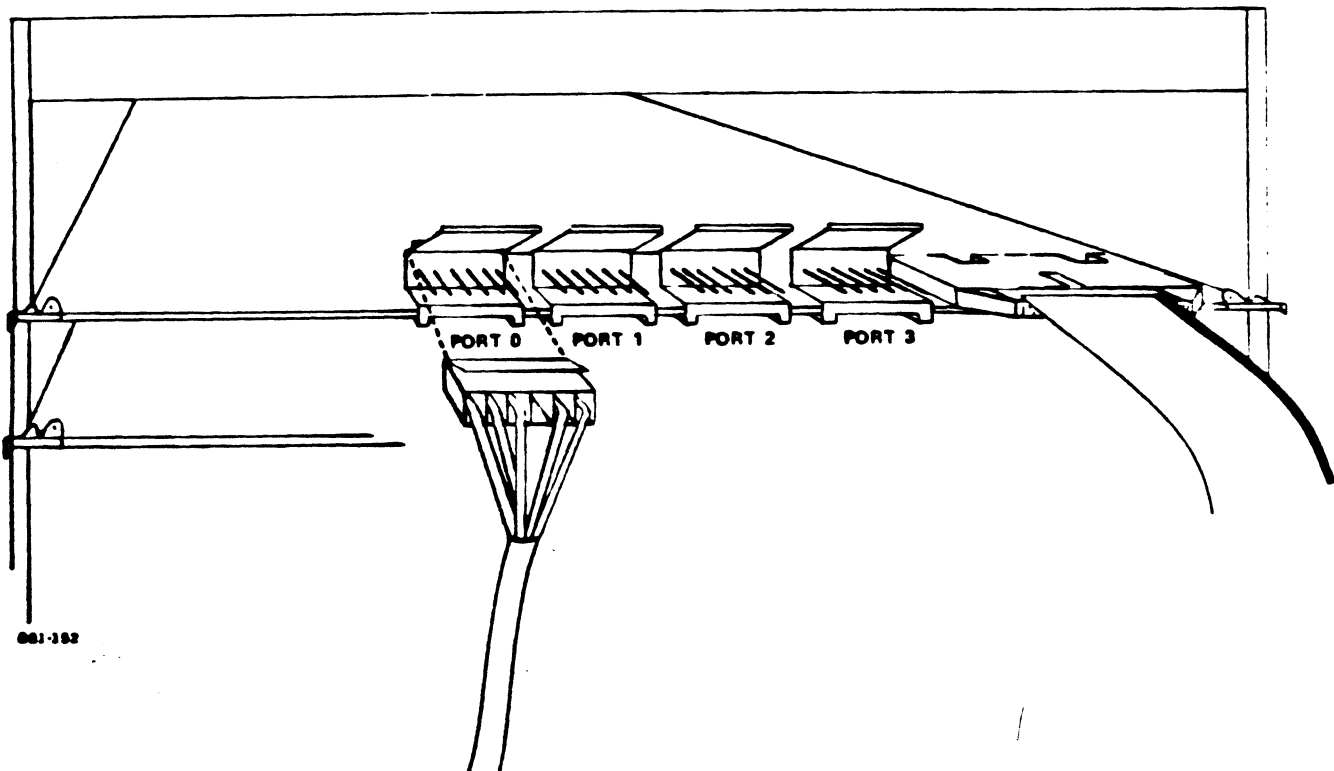

Figure 2-5. Plugging the Master Terminal Cable Into Port 0
1. Insert the six-holed plug into the leftmost terminal connector as shown in Figure 2-5. Remember that the side of the plug with the ridge must face upward. The plug snaps into place when fully inserted.